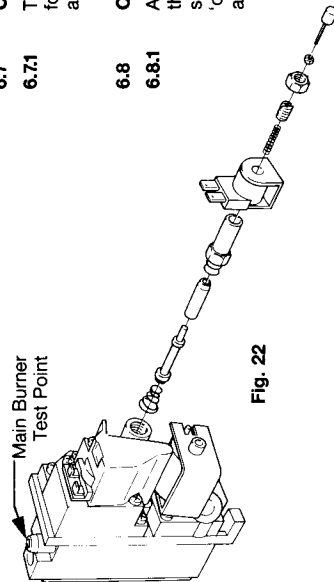

Fig. 22
**6.6.4** Locate the main burner pressure test point (Fig 22) and slacken the screw half a turn in an anti clockwise direction. Attach a suitable pressure gauge. Turn on electricity supply and fully open a domestic hot water tap to operate boiler in dhw mode. Adjust hot water thermostat to maximum setting.